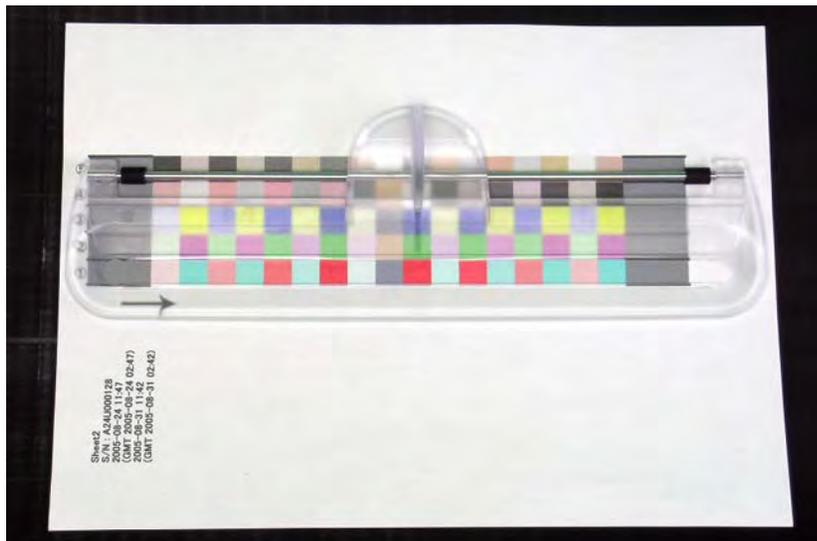

Figure 5-51. Setting the Chart and the Scanning Ruler
- 32. Refer to Figure 5-51, lay the chart on the black paper (or sheet) with the upper part of the chart facing left side, and set the scanning ruler onto the bottommost patch line.